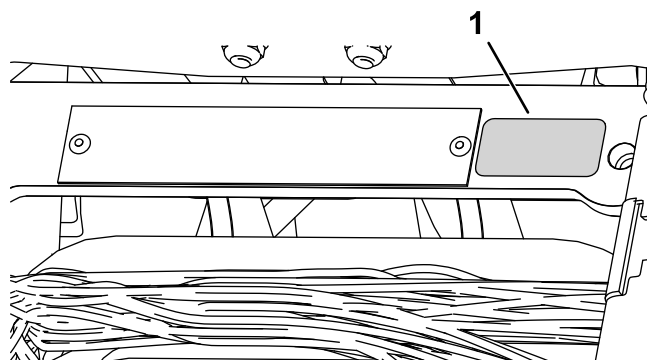

Figure 10
- Install the production year decal near the serial plate (Figure 10).